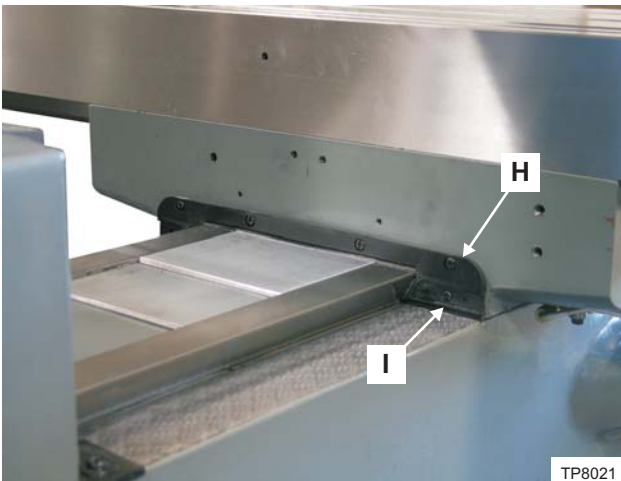
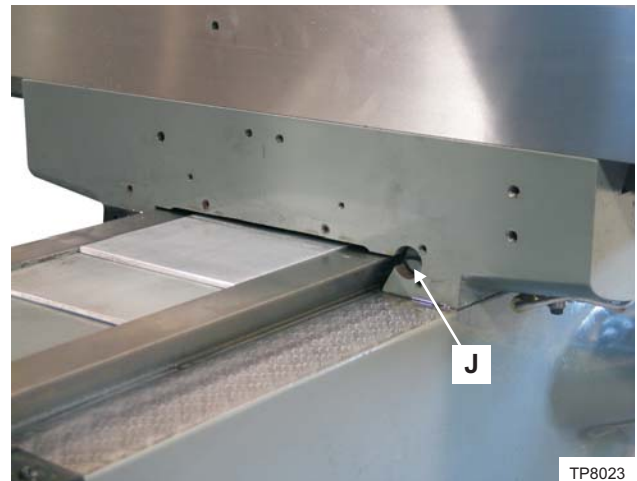

Figure 3.14 - Rear Saddle Wiper and Retainer
Figure 3.15 - Rear Saddle Gib Adjustment Screw
4. Remove wiper retainer "H" and wiper "I", Figure 3.14, to gain access to rear gib screw "J", Figure 3.15.